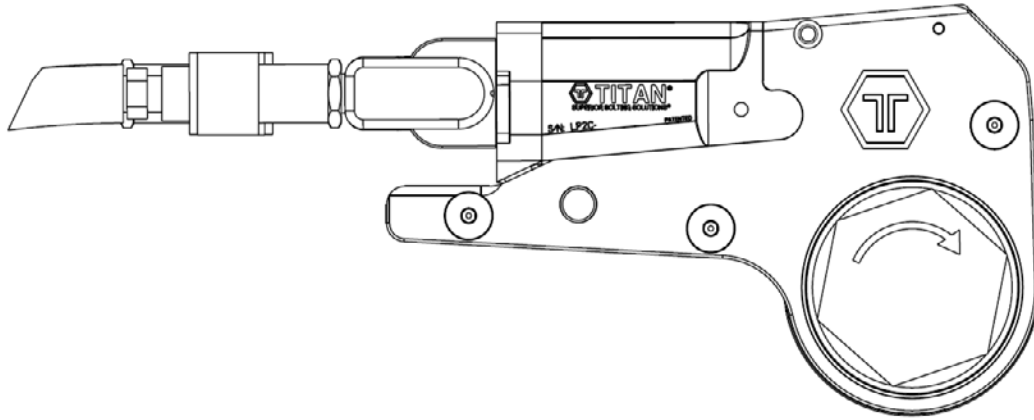

Figure 7 Tighten
The direction the drive rotates in the LP-tool is determined by its orientation on the application. Refer to Figures 7 & 8 for drive directions based on right-hand threads.
2. Place the tool on the nut in the direction for tightening (see figure 7 & 8)
1. Place the tool on the nut in the desired direction to loosen the fastener (see Figures 7 & 8).